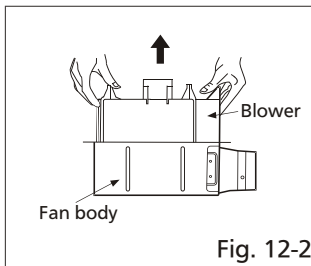

Fig. 12-2
- Remove blower section. (Fig.12-2)